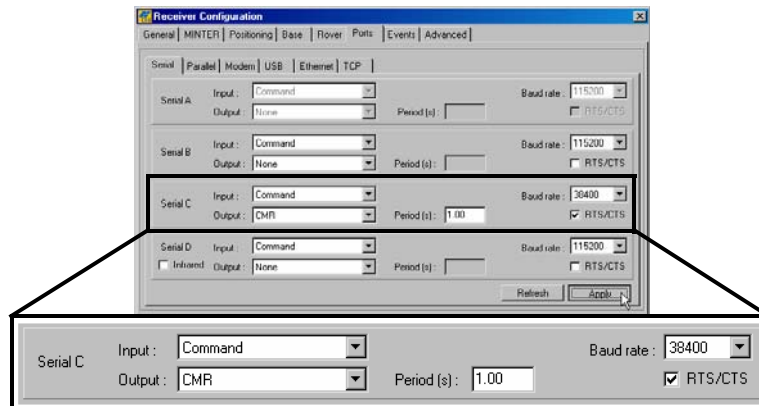

Figure 3-9. Base Configuration – Ports
10. Click the **Ports** tab and set the following port parameters for the serial port (Figure 3-9).